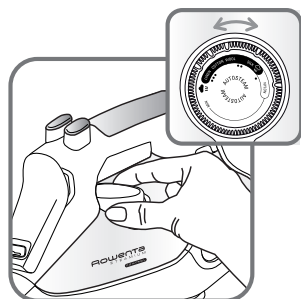

fig.3
- Set the temperature control dial **fig.3** on position (Min.)